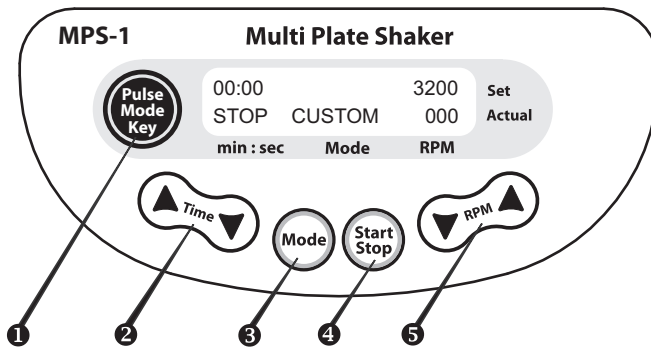

Fig. 2 Control panel
- 4.3. Using the **Mode** key (fig. 2/②) set the required working mode (CUSTOM, SOFT, MEDIUM, HARD, TUBE VORTEX). Operation in SOFT, MEDIUM, HARD, TUBE VORTEX modes differ from CUSTOM mode with a fixed, non-adjustable speed value (see specifications).
- 4.4. Set the required working time interval in minutes and seconds (the increment is 15 sec) using the **▲** and **▼ Time** keys (fig. 2/③). Pressing the key for more than 3 sec will make the values change faster. The set time is displayed in the upper line of the display.
- 4.5. Set the required speed (the increment is 100 rpm) in CUSTOM mode using the **▲** and **▼ RPM** keys (fig. 2/④). Pressing the key for more than 3 sec will make the values change faster. The set speed is displayed in the upper line of the display.
- 4.6. Press the **Start Stop** key (fig. 2/⑤). The platform will start motion (indication "RUN") and the timer indicator will start counting down the time interval in the upper line of the display.
- 4.11. Press the **Pulse Mode Key** (fig. 2/⑥). The **platform** will start the following cycle: acceleration – short mixing (duration 3 sec) – slowdown, (" " indication) and the timer indicator will start counting down the time interval in the upper line of the display.